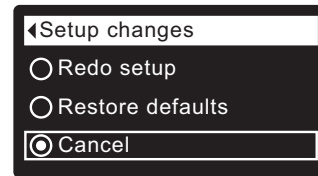

FIG. 152
7. Press the SELECT (O) button to display the Setup changes menu (See Figure 152).
8. If the desired option already has a dot next to it (See Figure 152), go to Step 9. Otherwise, press the DOWN (▼) or UP (▲) buttons to scroll to the desired option, then press SELECT (O) to choose it.